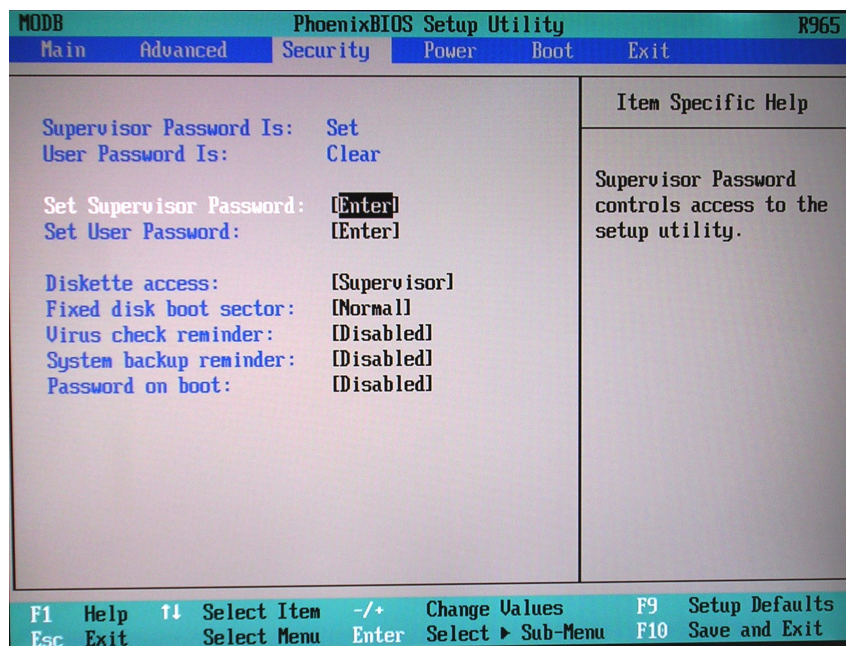

Figure 8-119 BIOS Security Parameters
Security	Figure 8-119 on page 8-115
- 3.) Set the parameters in the **Security** screen as shown above in Figure 8-119.